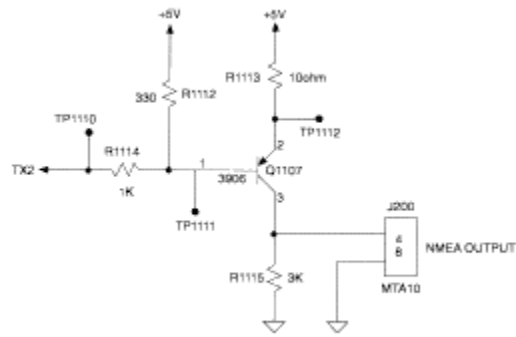

Figure 32
- The schematic is illustrated in figure 32.